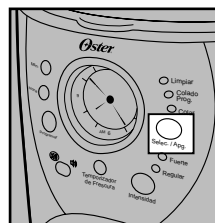

Figure 10
3. To activate Delay Brew (COLADO PROG.) and program your coffeemaker to brew coffee at a later time, press the Select (SELEC./APG.) button twice (Figure 10). The yellow Delay Brew (COLADO PROG.) light will turn on. The coffeemaker is now set to automatically brew coffee at the pre-set later time. At this time the brew strength light will turn on. You can select the strength that you desire by pressing the Brew Strength (INTENSIDAD) button.
Press the Select (SELEC./APG.) button until all lights turn off (Figure 10).